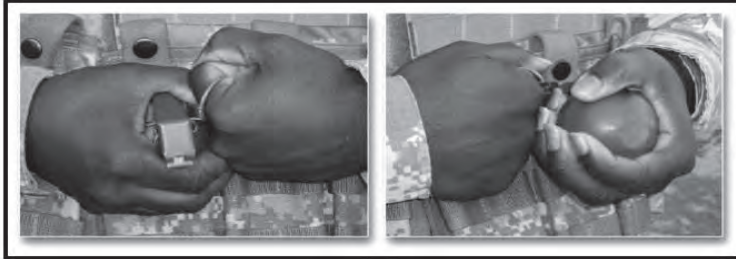

Figure 071-COM-4407-1. Pull ring grip, right/left hand.
- c. Insert the index or middle finger of the nonthrowing hand in the pull ring until it reaches the knuckle of the finger (Figure 071-COM-4407-1).